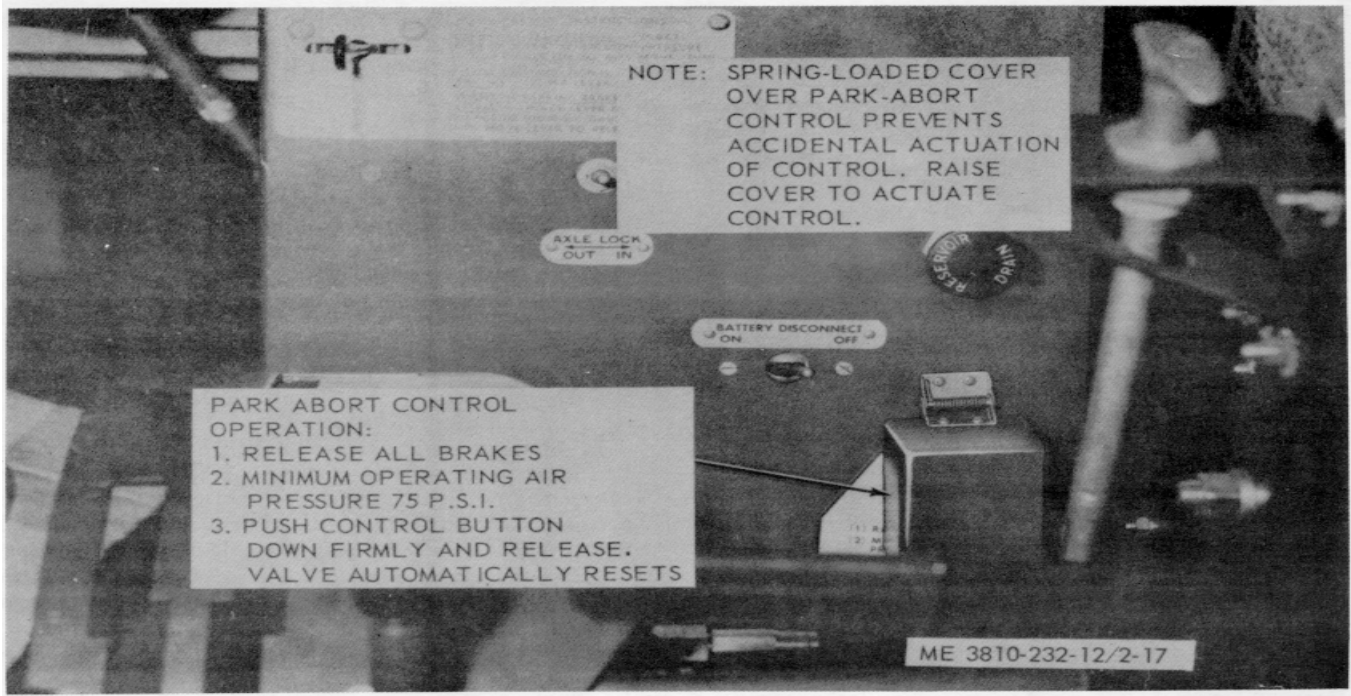

Figure 2-17. Park-abort control (model 2385).
(43) *Hydraulic selector control* (44). The hydraulic selector control is located at the extreme right rear corner of the cab. It is a rod-type lever used to actuate the hydraulic system for outrigger operation or front axle oscillate lockout, as desired.
(44) *Steering selector control* (45). The steering selector control is located to the operator's right, on the cab floor to the right of the front axle declutch control. It is used to select front steer, four-wheel steer; or crab position steering.
(45) *Quick-start control* (46). The quick-start control is located on the cab floor, to the operator's right, near the front axle declutch control. It is used to inject quick-starting vapor into the air intake for cold weather starting of the engine.
(47) *Park-abort brake control* (35). The park-abort brake control is located just below the battery disconnect switch on the auxiliary dash panel. It is a push-type control used to release the parking brakes when the machine is parked, to prevent freeze-up in cold weather. Refer to figure 2-17 for detail view and data.